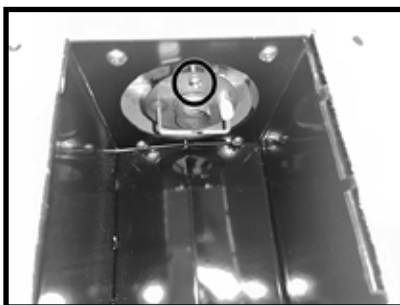

Figure 17: Venturi Screw.
1. Remove the screw holding the Spark Ignitor Collar in place (Figure 17), note of the hole location. Remove the spark igniter collar by pulling upward on the outside disk a short distance (Figure 18) and disconnect the ignition wire from the igniter (Figure 19).